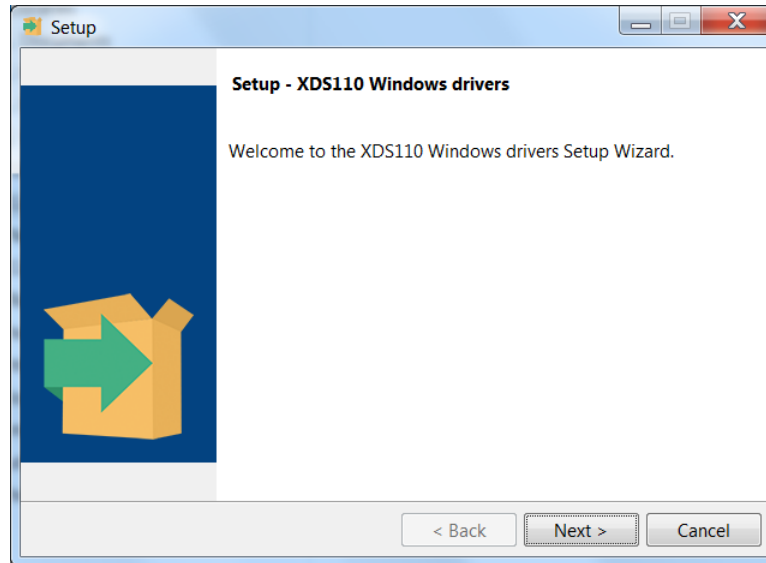

Figure 5. XDS110 Driver Setup Wizard
1. Run the installer in Administrator mode, and click the Next button (Figure 5).